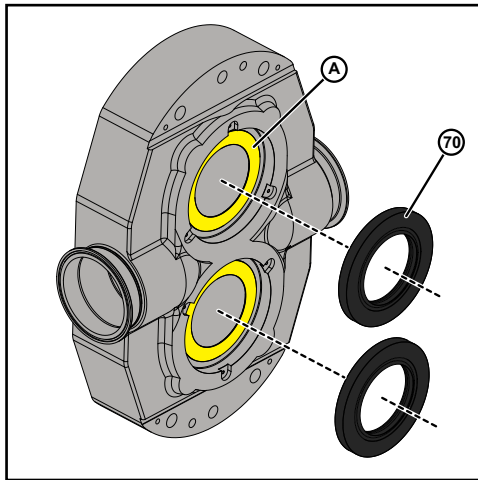

Figure 115 - Remove Lip seals
3. Remove and discard the lip seal (70) by using suitable tool like claw hammer/screw driver etc.
4. Remove the thin bead of silicone sealant (A) from the body, as shown in Figure 115.